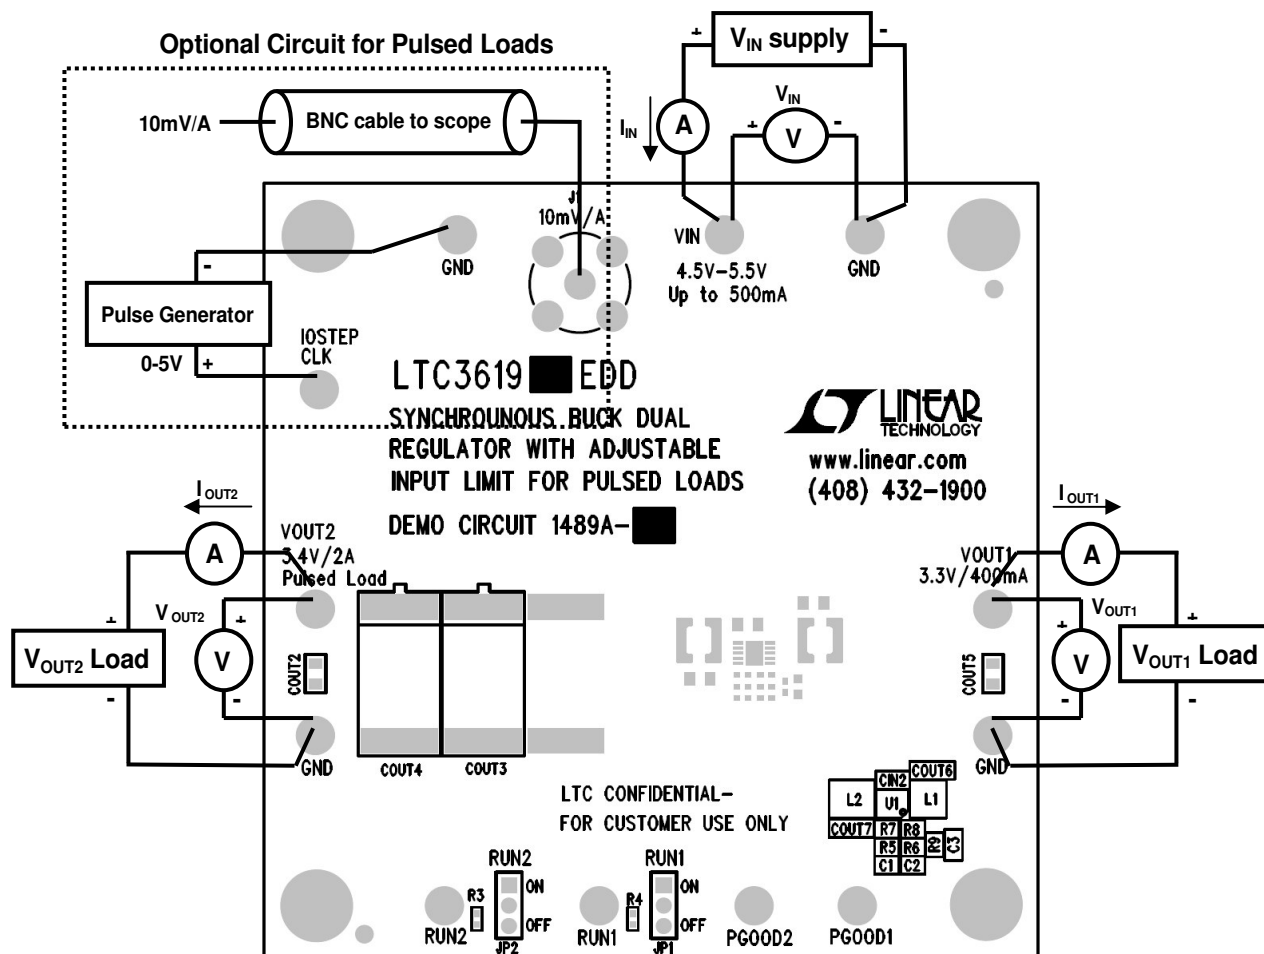

Figure 1. Proper Measurement Equipment Setup
Demonstration circuit 1489A is easy to set up to evaluate the performance of the LTC3619EDD/ LTC3619BEDD. Refer to Figure 1 for proper measurement equipment setup and follow the procedure below:
Figure 1 for proper setup. The circuit is capable of pulsed load of up to 2A with duty cycles up to 15% on  $V_{OUT2}$ .
4. A pulse generator with adjustable amplitude is connected between IOSTEP CLK and GND as indicated in Figure 1. The pulse generator should be capable of generating up to 5V pulses. Adjust the period and duty cycle of this signal to match that of the required load prior to attaching the pulse generator.